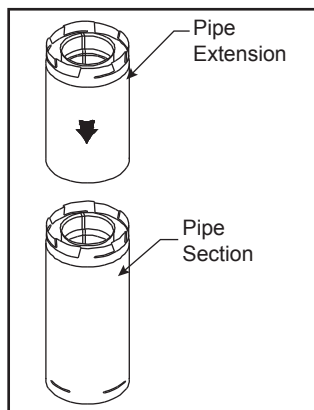

Figure 33
1. If exact lengths or distances must be met between elbow offsets or elsewhere, use the pipe extensions to adjust onto standard pipe sections, Figure 33.